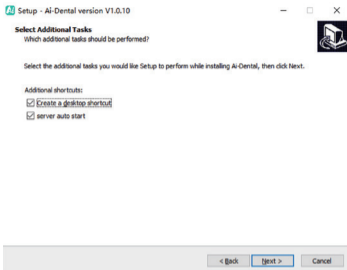

Figure 7
3.1.6 Set whether to create a desktop shortcut and server auto start, click the “Next” button after completion, as shown in Figure 7: